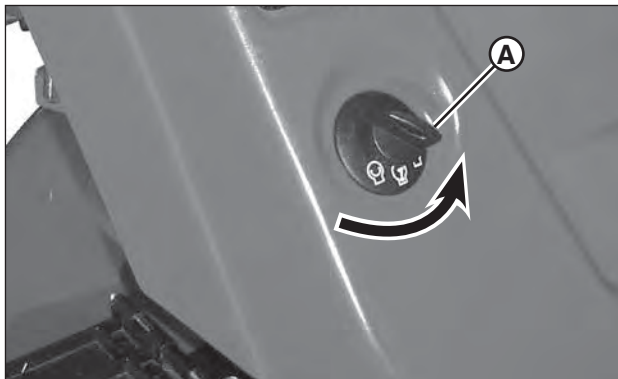

Figure 12: Turning ignition key to OFF
1. Stop the engine by turning the ignition key (A, Figure 12) to the OFF position.